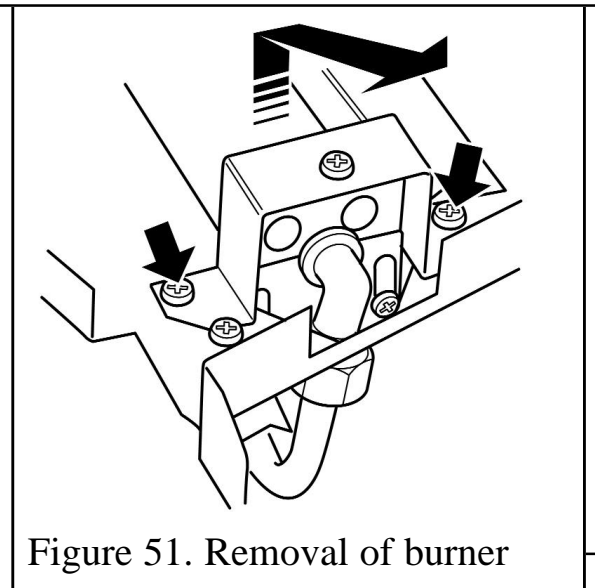

Figure 51. Removal of burner
(See figure 51).
3. Remove the two screws from the burner clamping plate (See figure 51).